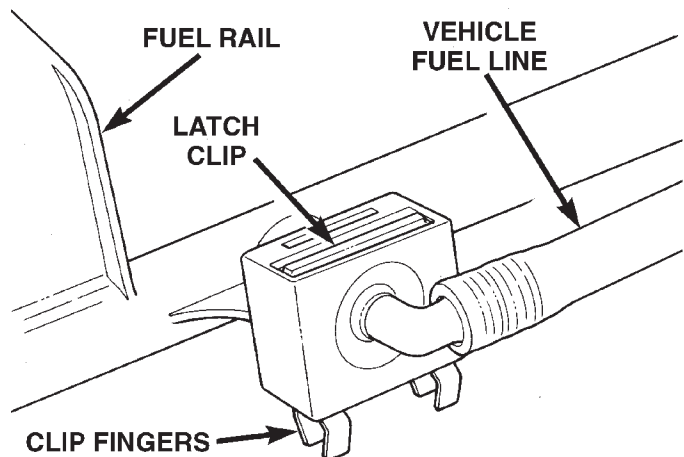

Fig. 21 Latch Clip—5.2L/5.9L Engines Without Fuel Test Port
A special latch clip is used to secure the fuel line to the fuel rail on this particular engine (Fig. 21).
- (1) Disconnect the negative battery cable from battery.
- (2) Perform the fuel pressure release procedure. Refer to the Fuel Pressure Release Procedure in this section.
- (3) Clean the fitting of any foreign material before disassembly.
- (4) Compress the clip fingers (Fig. 21) and pull clip straight up for removal.
fuel rail if properly installed (Fig. 21). **If the latch clip will not fit, this indicates the fuel line is not properly installed to the fuel rail. Recheck the fuel line connection.**